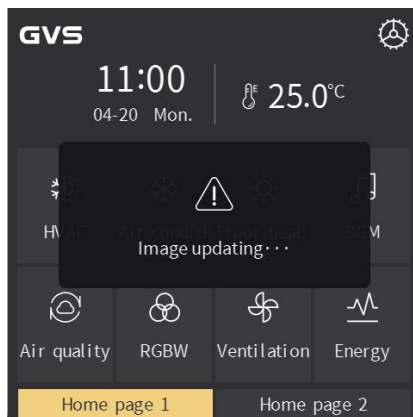
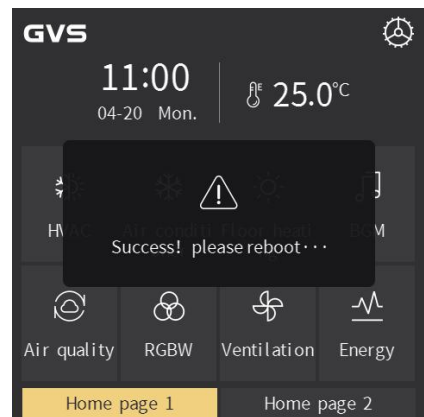
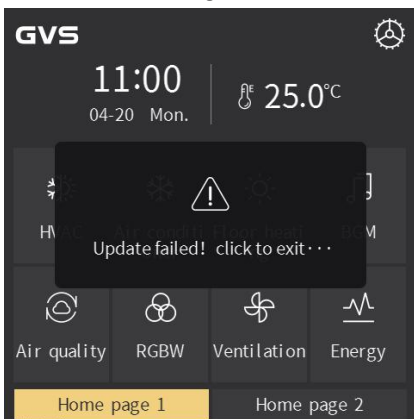
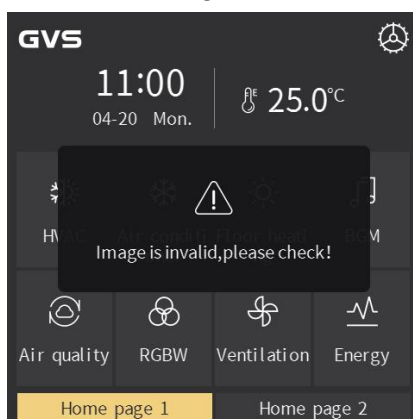

Fig.4.2
Fig.4.3
Fig.4.4
Fig.4.5
② Update pictures: when there is a folder named “Functionicon” in the Micro SD card, and there is a picture in accordance with valid name and format, then it will update and store (even if the picture is the same as the last saved).
3. Click “Confirm” to update picture; after upgrade, there will pop up a window of the result, if upgrade is successful, then reboot the device manually to apply the new function icons to the system; if upgrade is failed, click any area outside the window to return to the page, as shown in Fig.4.2, Fig.4.3, Fig.4.4 and Fig.4.5.